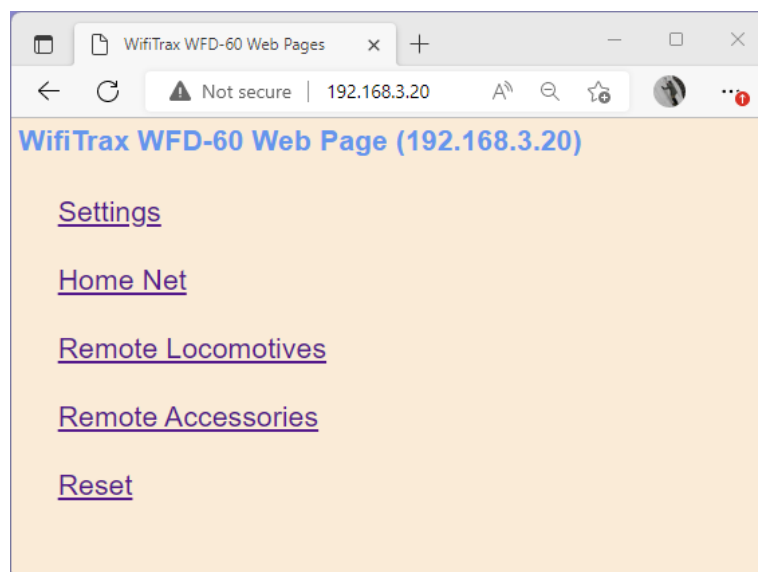

Figure 92 Use the IP Address to open the main menu web page
- f. Now open another tab in your browser and type the IP Address, 192.168.3.8 in this example, into the address bar to get the main menu web page of your module as Figure 92.